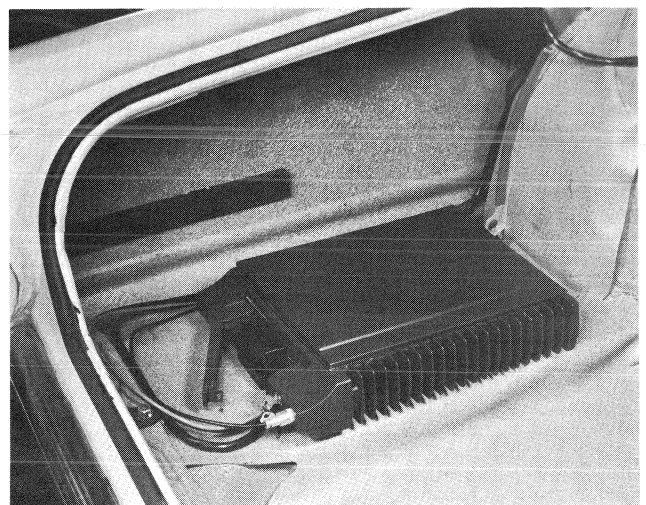

Figure 7.
screws will extend below the trunk floor. If either condition exists, insert one of the thick spacer washers between the bottom of the bottom plate and the thin spacer washer, at each of the four mounting holes. The washers help to keep the radio set level, especially when the floor is covered with a "spongy" mat such as soft rubber. Replace the radio assembly by sliding the radio assembly onto the flange at the rear of the bottom plate using the raised track to align the assembly. With the handle open, seat the back end of the upper cover and lower the front to the radio set. Seat the multi-conductor cable plug onto the pins in the front of the radio. (Refer to Figure 7.) Push down on the top cover and close the handle. The handle locks the radio to the bottom plate, the top cover to the radio and the multi-conductor plug to the radio. Lock the radio set by rotating the key 180° counterclockwise. When removing the radio, reverse the procedure.